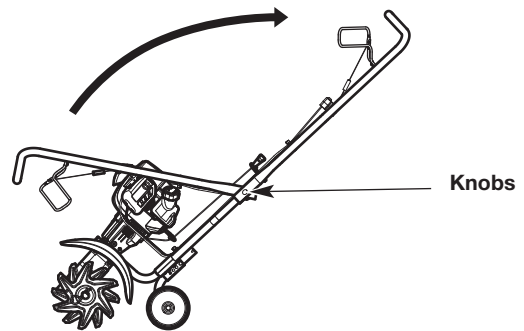

Fig. 3
3. Swing the handlebar up into the operating position (Fig. 3).